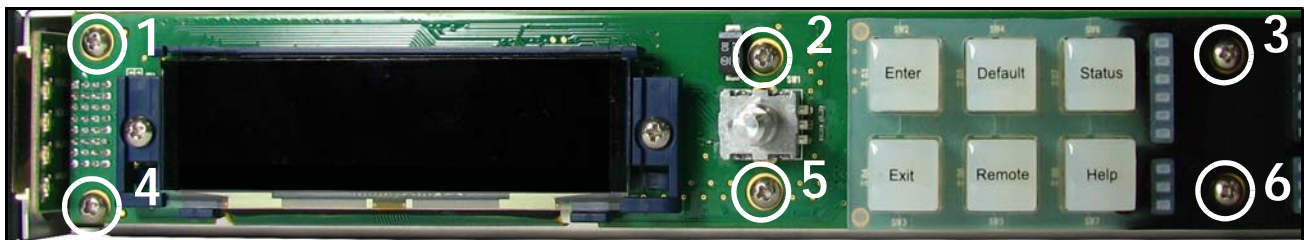

Figure C-14 Mounting Screws for Front Display Board
- 2 Remove the six circuit board mounting screws (Figure C-14).